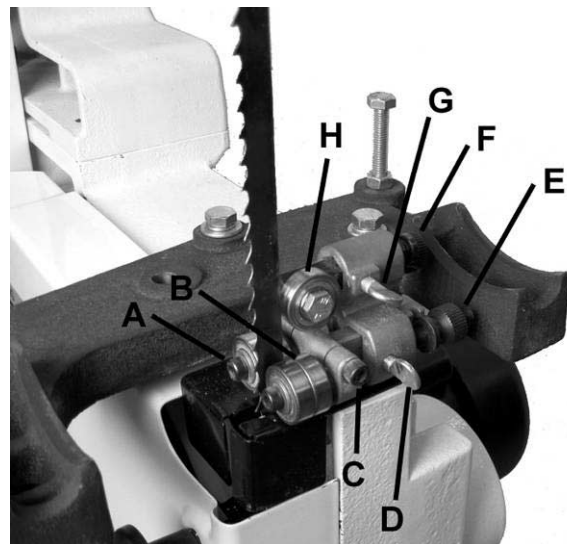

Figure 12
3. Loosen thumb screw (G, Fig. 12) and turn knurled knob (F, Fig. 12) to move the thrust bearing (H, Fig. 12) in or out until the bearing is 1/64" behind the blade.
4. Tighten thumb screw (G, Fig. 12).
5. Loosen thumb screw (D, Fig. 12) and turn knurled knob (E, Fig. 12) to move the guide block bracket in or out until the front edge of the guide bearings are just behind the "gullets" of the saw teeth.
6. Tighten thumb screw (D, Fig. 12).
7. Loosen lock bolt (C, Fig. 12) and rotate guide bearings (B, Fig. 12) using cam (A, Fig. 12) with provided 4mm hex wrench as close to blade as possible without pinching it.
8. Tighten lock bolt (C, Fig. 12).